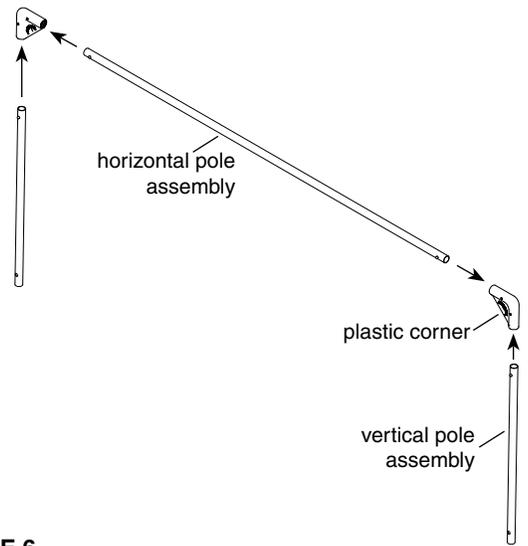

FIGURE 6
1. Insert (3) 57.21" horizontal assembly poles (68188) into (6) plastic corner pieces (68175) by lining up snap button with snap button holes in plastic corner pieces. Snap into place. Pole will have a snug fit and may shave some interior plastic off. This is by design for a good fit. **SEE FIGURE 6.**
2. Insert (6) 24" vertical assembly poles (68184) into the previously assembled horizontal pole/plastic corner assemblies by lining up snap button with the snap button holes in plastic corner pieces. Snap into place. Poles will have a snug fit and may shave some interior plastic off. This is by design for a good fit. **SEE FIGURE 6.**
1. Insert (3) 70.02" horizontal assembly poles (68190) into (6) plastic corner pieces (68175) by lining up snap button with snap button holes in plastic corner pieces. Snap into place. Pole will have a snug fit and may shave some interior plastic off. This is by design for a good fit. **SEE FIGURE 6.**
2. Insert (6) 27.76" vertical assembly poles (68186) into the previously assembled horizontal pole/plastic corner assemblies by lining up snap button with the snap button holes in plastic corner pieces. Snap into place. Poles will have a snug fit and may shave some interior plastic off. This is by design for a good fit. **SEE FIGURE 6.**